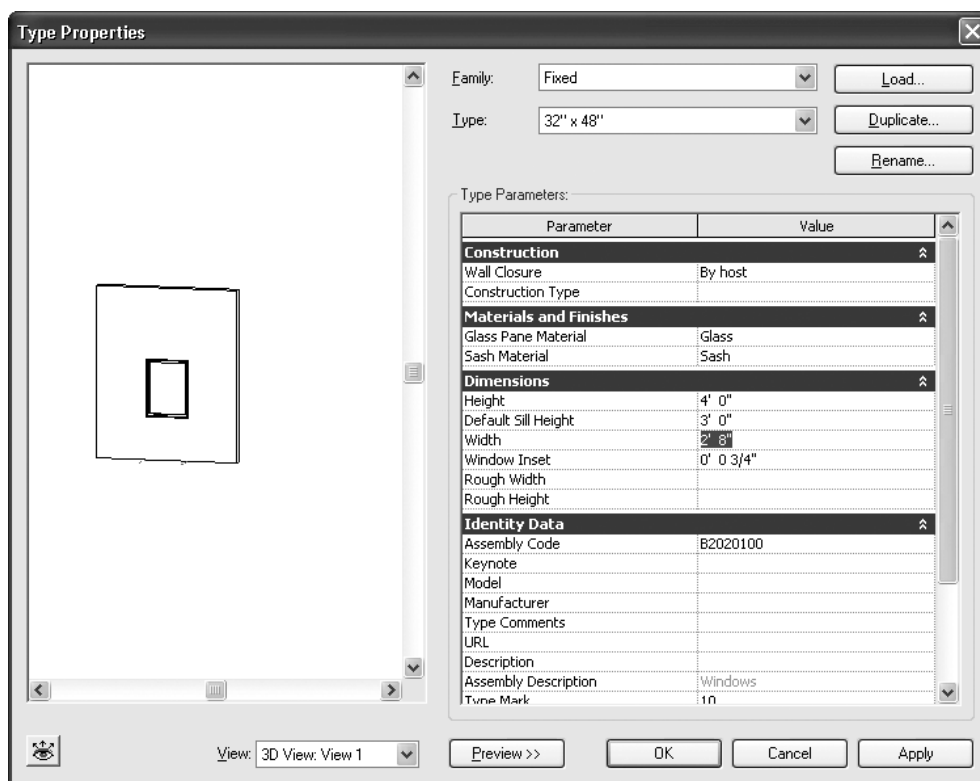

Figure 3-5.8 Added window size
15. Adjust the sill height for your new window size to fit within coursing as well. Set the sill height for **Fixed: 32" x 48"** to be **3'-4"** (Figure 3-5.8).